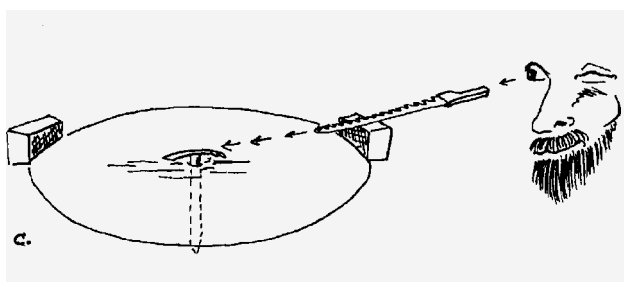

Figure 11-13
- The top spiral cut must point toward the center marker (at ground level). Use your saw as a “sight/straightedge” as shown in figure 11-13.